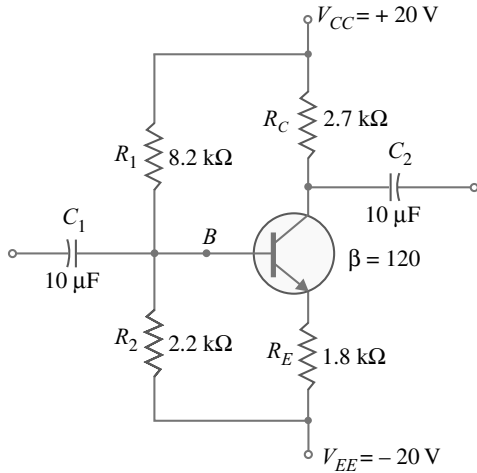
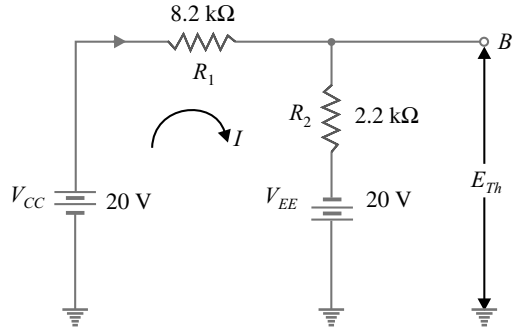
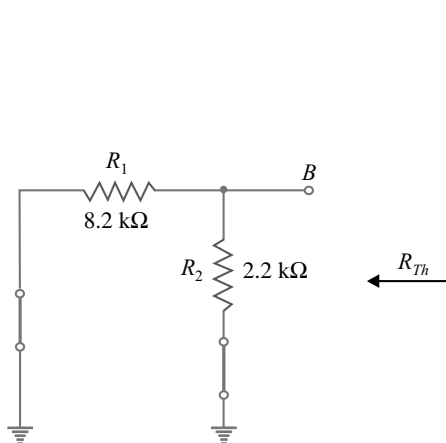
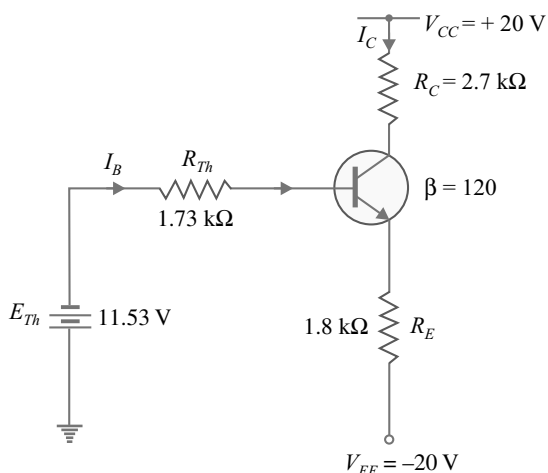

Fig. 7.49
Fig. 7.50
Fig. 7.51
Fig. 7.52
**Example 7.42.** Use Thevenin theorem to determine  $V_C$  and  $V_B$  for the circuit shown in Fig. 7.49. Assume that  $\beta$  for the transistor is 120.
**Solution.** We shall apply Thevenin theorem to the left of the base terminal  $B$  in Fig. 7.49 and find Thevenin voltage  $E_{Th}$  and Thevenin resistance  $R_{Th}$ .
**Finding  $E_{Th}$ .** In order to find  $E_{Th}$  to the left of base terminal  $B$  in Fig. 7.49, we use the circuit shown in Fig. 7.50.
The circuit current  $I$  in Fig. 7.50 is
**Finding  $R_{Th}$ .** In order to find  $R_{Th}$  to the left of the base terminal  $B$  in Fig. 7.49, we use the circuit shown in Fig. 7.51. Note that voltage sources  $V_{CC}$  and  $V_{EE}$  are replaced by shorts.
$$\begin{aligned} \therefore R_{Th} &= \text{Resistance between base terminal } B \text{ and ground in Fig. 7.51} \\ &= R_1 \parallel R_2 = 8.2 \text{ k}\Omega \parallel 2.2 \text{ k}\Omega = \frac{8.2 \text{ k}\Omega \times 2.2 \text{ k}\Omega}{8.2 \text{ k}\Omega + 2.2 \text{ k}\Omega} = 1.73 \text{ k}\Omega \end{aligned}$$
Therefore, the circuit to the left of the base terminal  $B$  in Fig. 7.49 can be replaced by Thevenin equivalent circuit consisting of  $E_{Th}$  ( $= -11.53 \text{ V}$ ) in series with Thevenin resistance  $R_{Th}$  ( $= 1.73 \text{ k}\Omega$ ) as shown in Fig. 7.52. Note that polarity of  $E_{Th}$  is correct. Applying Kirchhoff's voltage law to the base-emitter loop in Fig. 7.52, we have,